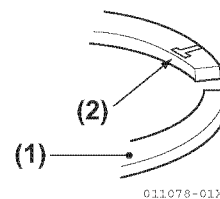

Figure 5-92
- Install the rings with the manufacturer's mark facing up (**Figure 5-92**).